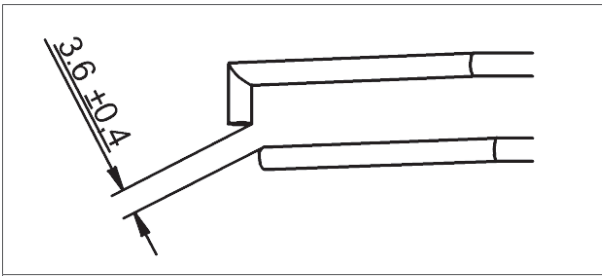

Figure 27 - Distance between the two electrodes
- b. The distance between the two electrodes should be $3.6 (\pm 0.4)$ mm (figure 27).